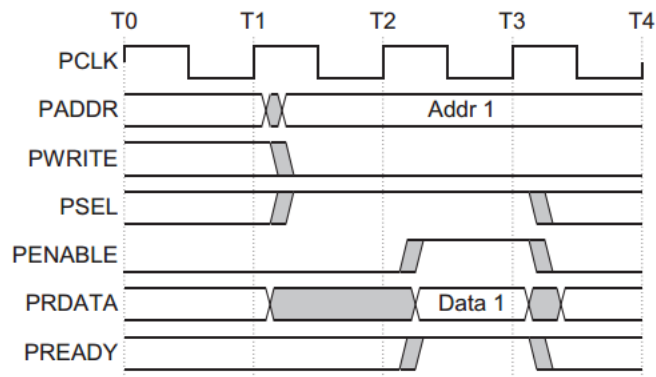

Figure 2-4 Read transfer with no wait states
Figure 2-4 shows a read transfer. The timing of the address, write, select, and enable signals are as described in Write transfers in section 2.3.1. The slave must provide the data before the end of the read transfer.
- Read transfer with no wait state timing chart – Figure 2-4